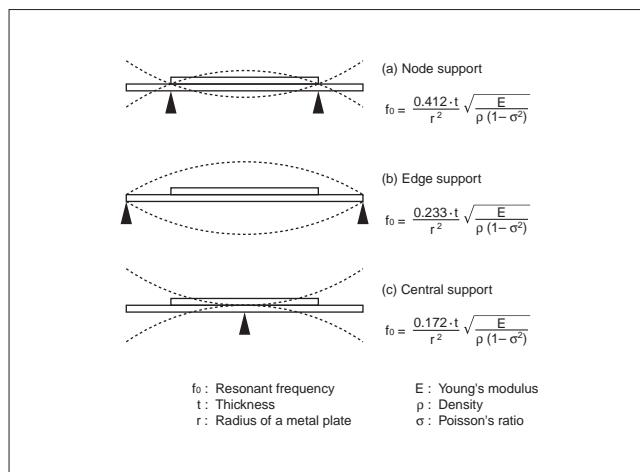
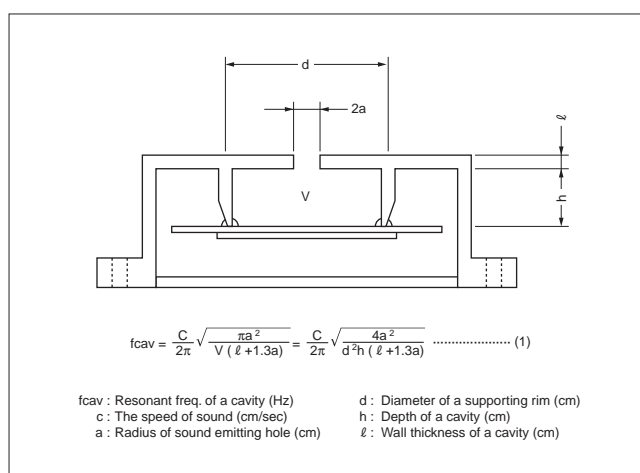

Fig. 3 Supporting Method
Fig. 4 Sectional View of A Cavity
In general, man's audible frequency range is about 20 Hz to 20kHz. Frequency ranges of 2kHz to 4kHz are most easily heard. For this reason, most piezoelectric sound components are used in this frequency range, and the resonant frequency (f_0) is generally selected in the same range too. As shown in Fig. 3, the resonant frequency depends on methods used to support the piezoelectric diaphragm. If piezoelectric diaphragms are of the same shape, their values will become smaller in the order of (a), (b) and (c). In general, the piezoelectric diaphragm is installed in a cavity to produce high sound pressure (Fig. 4). The resonant frequency (f_{cav}) of the cavity in Fig. 4 is obtained from Formula (1) (Helmholtz's Formula). Since the piezoelectric diaphragm and cavity have proper resonant frequencies, (f_0) and (f_{cav}) respectively, sound pressure in specific frequencies can be increased and a specific bandwidth can be provided by controlling both positions.
Fig. 9 shows a typical application of the self drive method. The piezoelectric diaphragm provided with feedback electrode shown in Fig.9 (i) is involved in the closed loop of a Hartley types oscillation circuit. When the frequency is closed to the resonant frequency, the circuit satisfies oscillating conditions, and the piezoelectric diaphragm is driven with the oscillating frequency. Fig. 9 (ii) shows a simple oscillating circuit consisting of one transistor and three resistors. In general, the node support shown in Fig. 3 (a) is popular in the self drive method. Proper resonance of the piezoelectric diaphragm by the node support provides stable oscillation with high mechanical Qm of vibration but also a single high pressure tone.
In addition to the previous methods based on the electrical circuit, it is also possible for Piezoelectric sound components to raise up S.P.L. by using a resonant cavity based on Helmholtz's Formula in Fig. 4 of Page 3. Concerning these items, please feel free to contact the sales division.